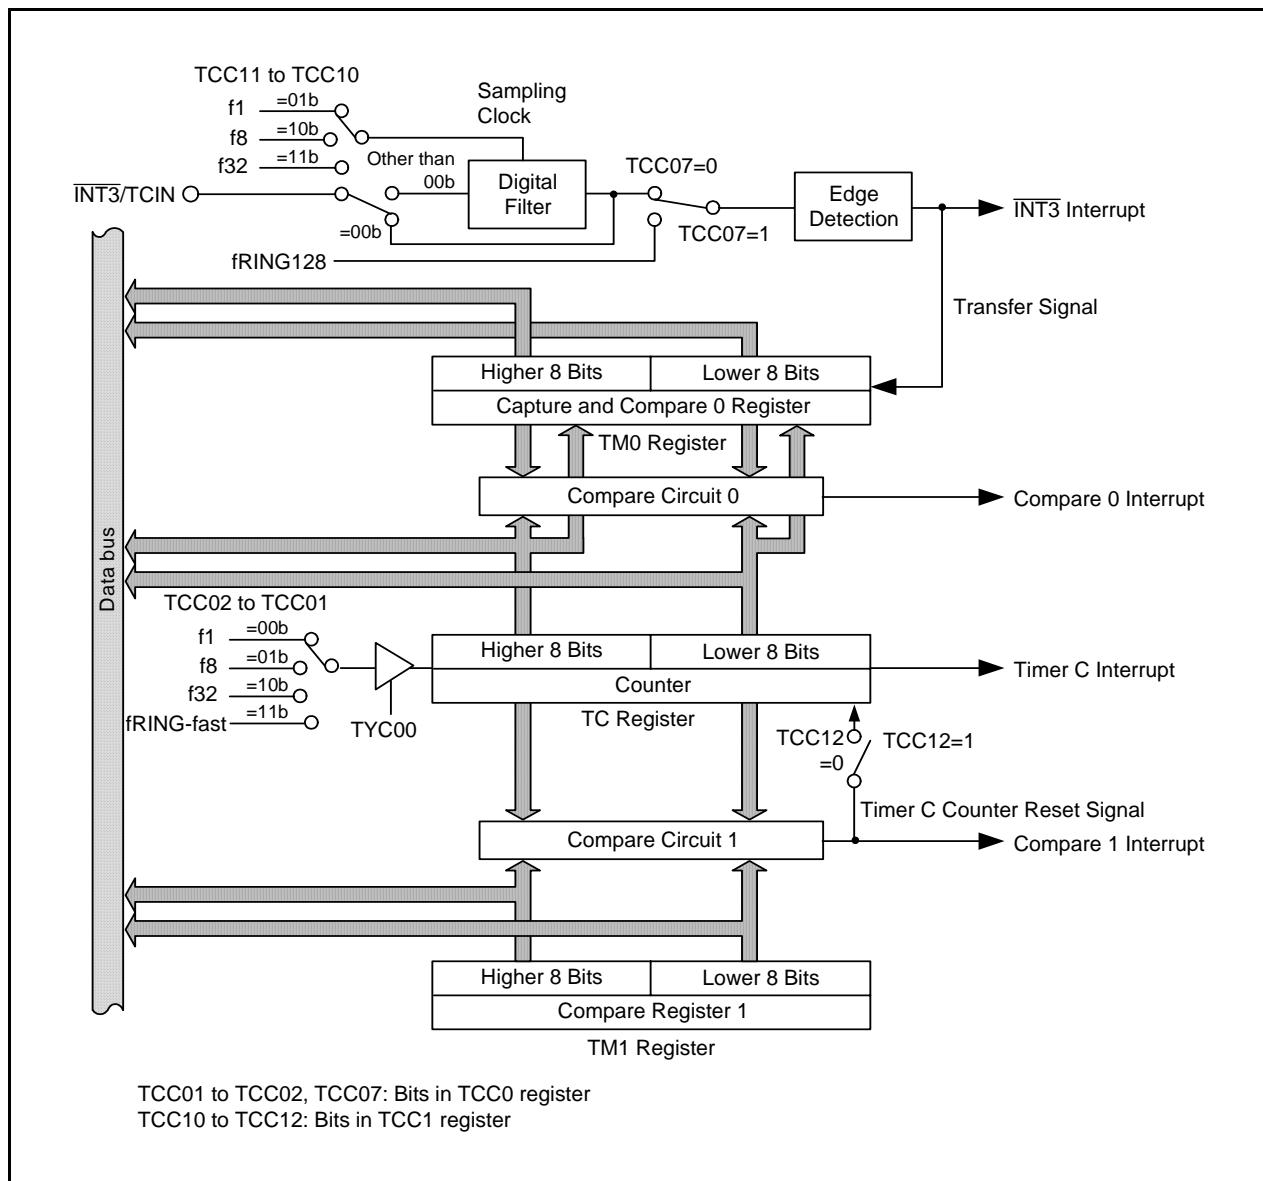
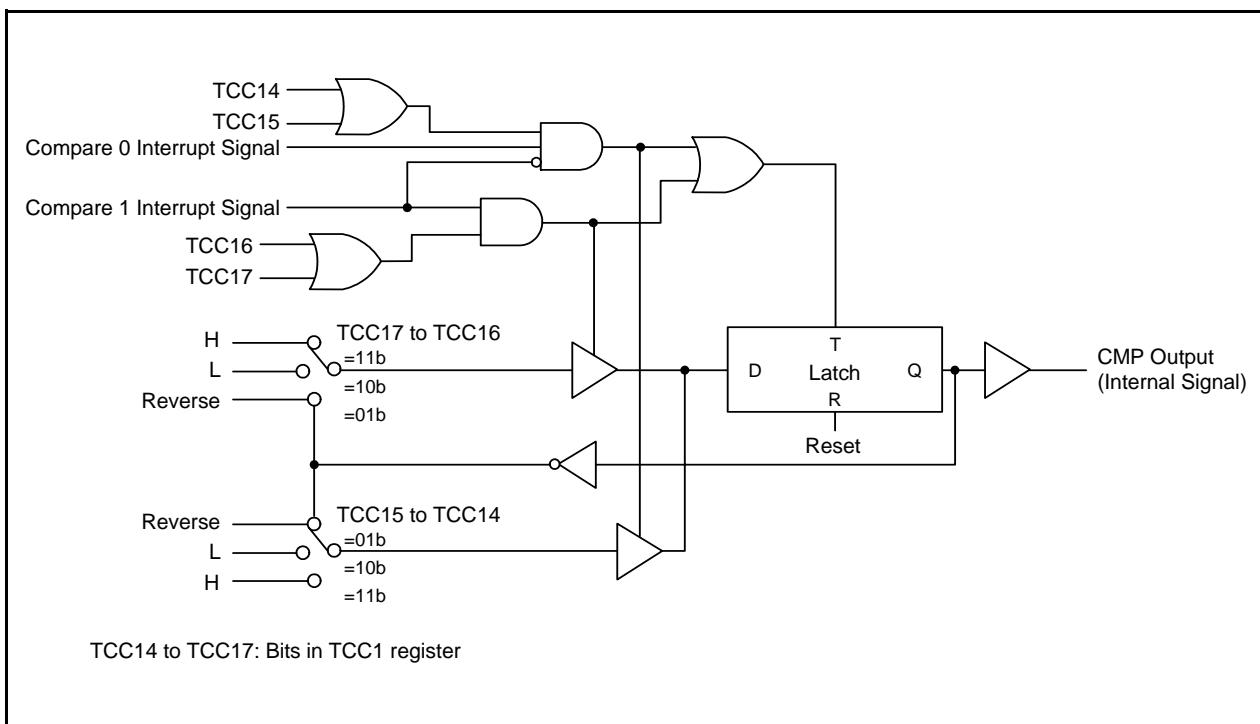
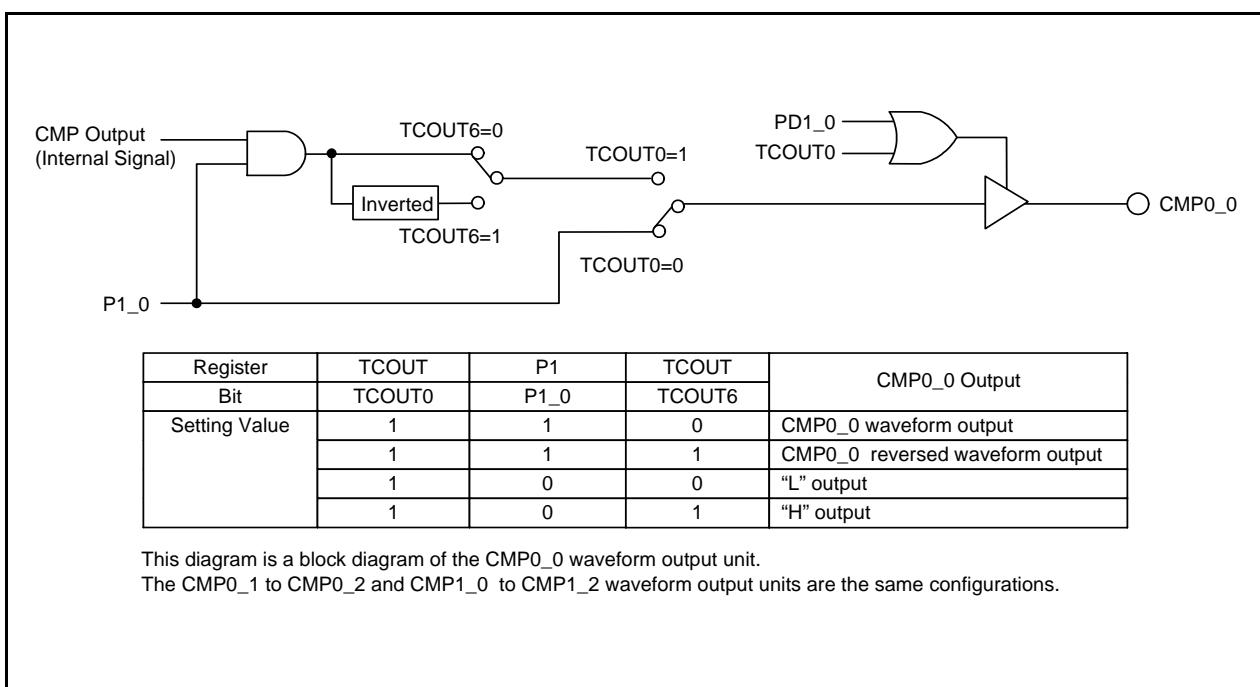

Figure 13.23 Block Diagram of Timer C
Figure 13.24 Block Diagram of CMP Waveform Generation Unit
Figure 13.25 Block Diagram of CMP Waveform Output Unit
Timer C is a 16-bit timer. Figure 13.23 shows the Block Diagram of Timer C. Figure 13.24 shows the Block Diagram of CMP Waveform Generation Unit. Figure 13.25 shows the Block Diagram of CMP Waveform Output Unit.
1. When the corresponding port data is “1”, the waveform is output depending on the setting of the registers TCC1 and TCOUT. When the corresponding port data is “0”, the fixed level is output (refer to **Figure 13.25 Block Diagram of CMP Waveform Output Unit**).